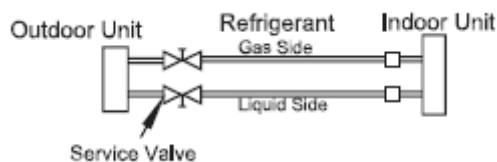

Fig. 23 —Service Valves
1. Completely tighten the flare nuts of the liquid and gas pipes on the indoor and outdoor side (for all fan coils) (see Fig 23).